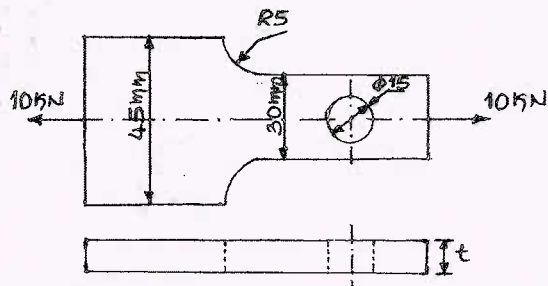

Fig.Q2(c)
c. A flat plate as shown in Fig.Q2(c) is subjected to a tensile force of 10 kN. The plate material is grey cast iron FG200 ( $\sigma_u = 200 \text{ N/mm}^2$ ) and factor of safety is 2.5. Determine the thickness of the plate.